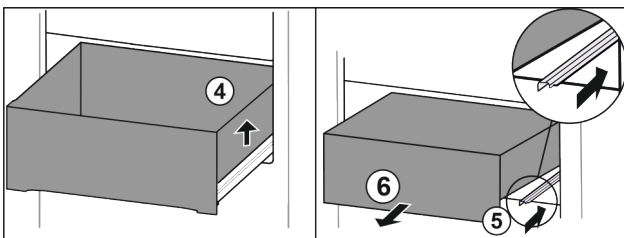

Fig. 73
- ▶ Lift drawer on the right. Fig. 73 (4)
- ▶ Insert right rail. Fig. 73 (5)
- ▶ Remove drawer to the front. Fig. 73 (6)